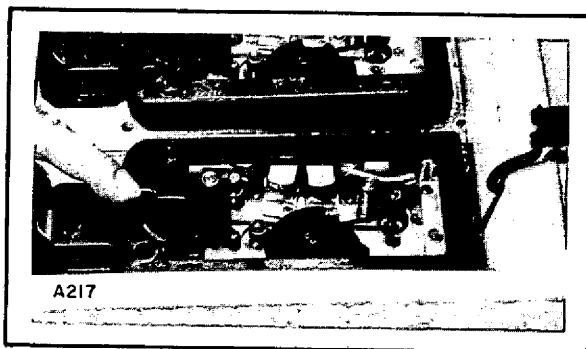

Fig. 3-7. Unlock Lever
- b. Move the locking lever to the unlock position. (See figure 3-7.)